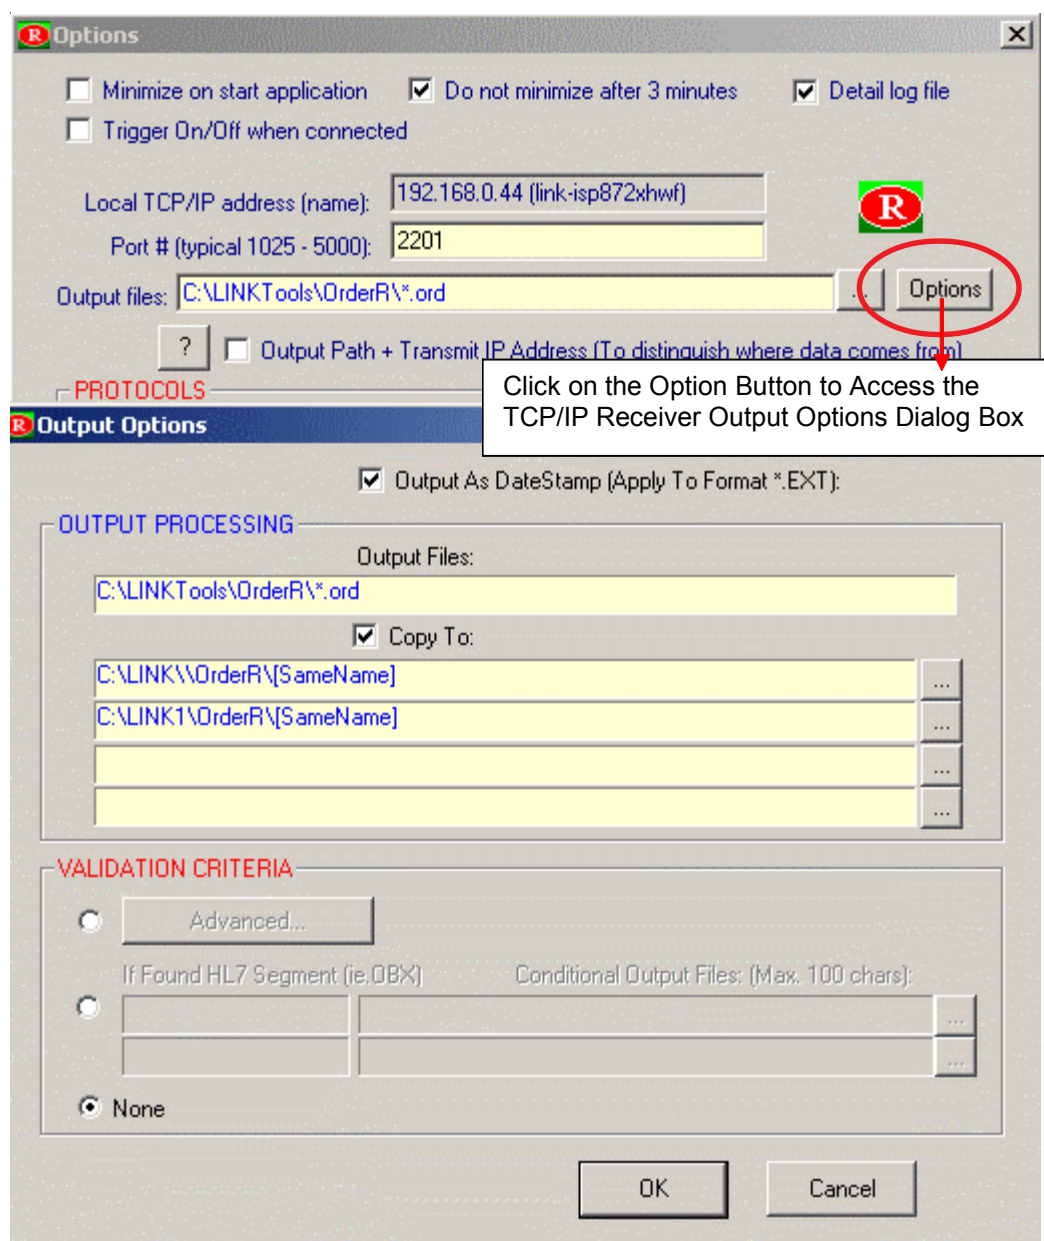

Figure 12: LINKTools® TCP/IP Receiver Output Options Dialog Box
3. Leave the “Output files” box at default setting: (C:\LINKTools\OrderR*.ord). The Option Button to the right of the TCP/IP Receiver output files column allows user to access the most sophisticate functions of the Receiver (Figure 12):